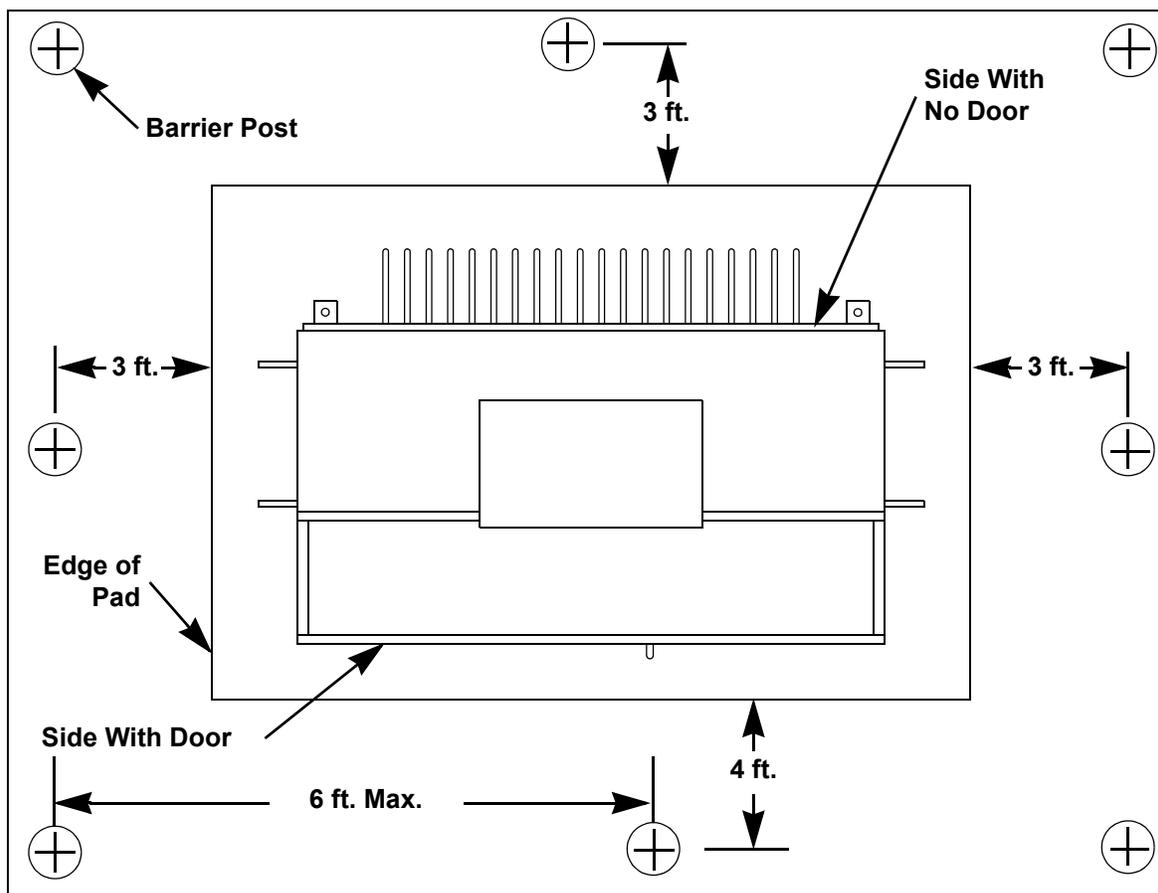

Figure 6-3: Top View of Barrier Post Locations at a Pad-Mounted Installation
- The barrier posts must be no more than six feet apart. See **Figure 6-3** for a top view of the barrier post locations around electrical equipment.
- Do not install a barrier post closer than 4 feet to the front edge of the concrete pad or vault where the equipment door is located or will be located. See **Figure 6-3** for barrier post locations, and see **Table 6-3** for barrier post dimensions.
- Do not install a barrier post closer than 3 feet to the sides or back of the concrete pad or vault when the side or back of the equipment does *not* have a door. (See **Figure 6-3**.)